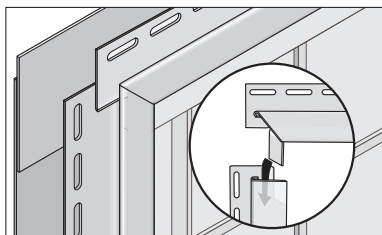

FIG 10.1
- Water runoff can also be accomplished by making a series of notches and tabs in the J-channel (FIG 10.1).